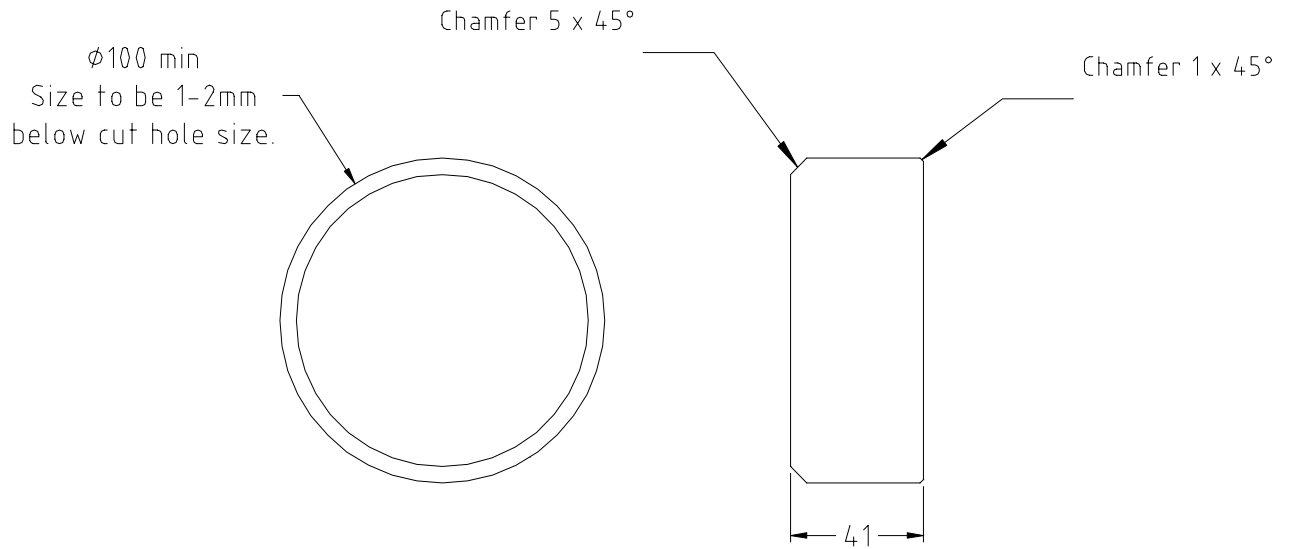

Figure 7: Boss, required to be cut from Bright round bar AISI 1018/1020
3. Make up 2 bosses as to figure 7. These bosses are made out of AISI 1018/1020 round bright bar.